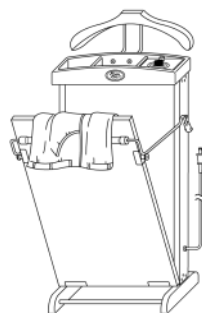

FIGURE 4
2. Place pants or trousers into unit, with cuffs or bottoms of legs as far down as possible between the Front Pressing Plate and Heating Plate. Waistline of pants should hang over top edge of Front Pressing Plate (FIGURE 4).